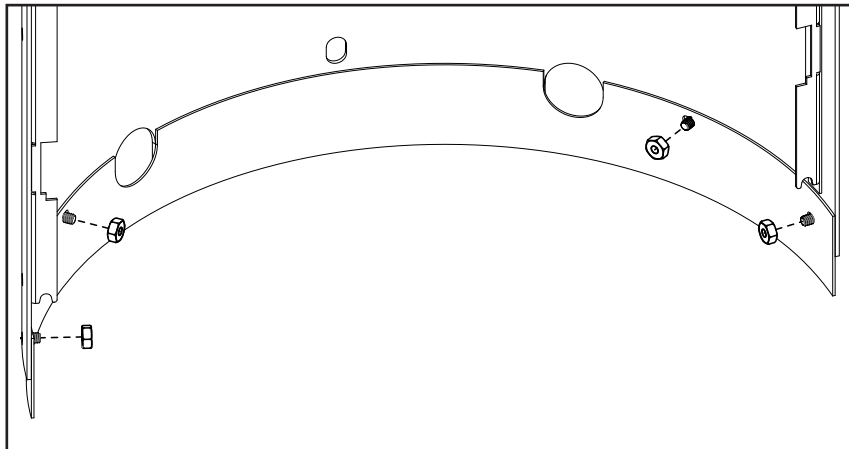

Figure 39: Rear Skirt Removal
Remove the four (4) nuts retaining the rear skirt using a 3/32" (or 9mm) socket (see Figure 39).